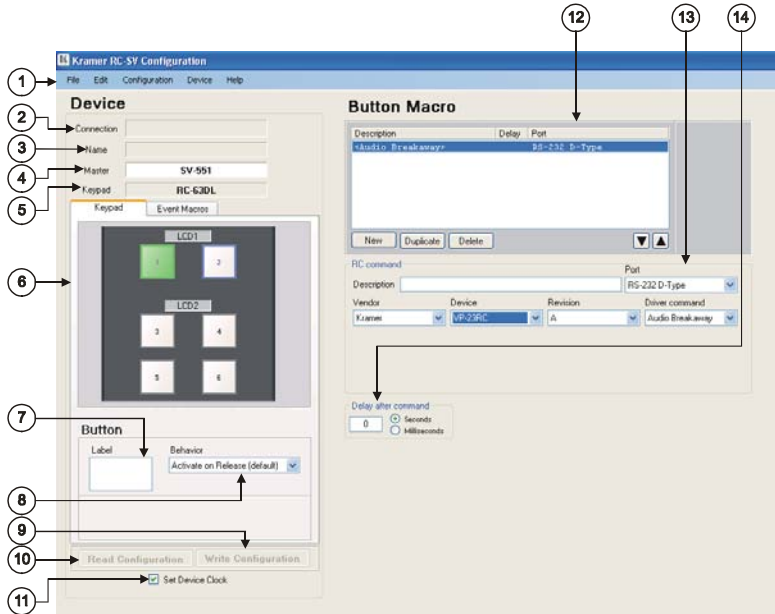

Figure 17: The Kramer RC Configuration Main Window
After importing the drivers and defining the ports, use the Kramer RC Configuration main window to assign a sequence of commands (the macro) for each RC button. Figure 17 illustrates the *Kramer RC-SV Configuration* main window1, and Table 5 defines it:
- The keypad tab, illustrated in Figure 17 and defined in Table 5, lets you assign macros to the buttons (see section 5)